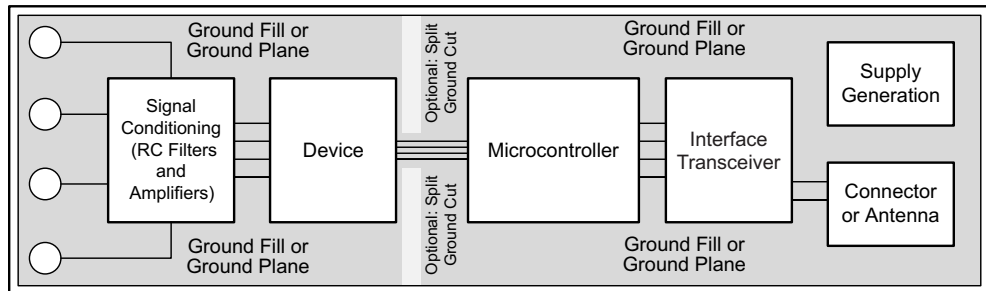

Figure 48. System Component Placement
Employ best design practices when laying out a printed-circuit board (PCB) for both analog and digital components. For optimal performance, separate the analog components [such as ADCs, amplifiers, references, digital-to-analog converters (DACs), and analog MUXs] from digital components [such as microcontrollers, complex programmable logic devices (CPLDs), field-programmable gate arrays (FPGAs), radio frequency (RF) transceivers, universal serial bus (USB) transceivers, and switching regulators]. An example of good component placement is shown in Figure 48. Although Figure 48 provides a good example of component placement, the best placement for each application is unique to the geometries, components, and PCB fabrication capabilities employed. That is, there is no single layout that is perfect for every design and careful consideration must always be used when designing with any analog component.